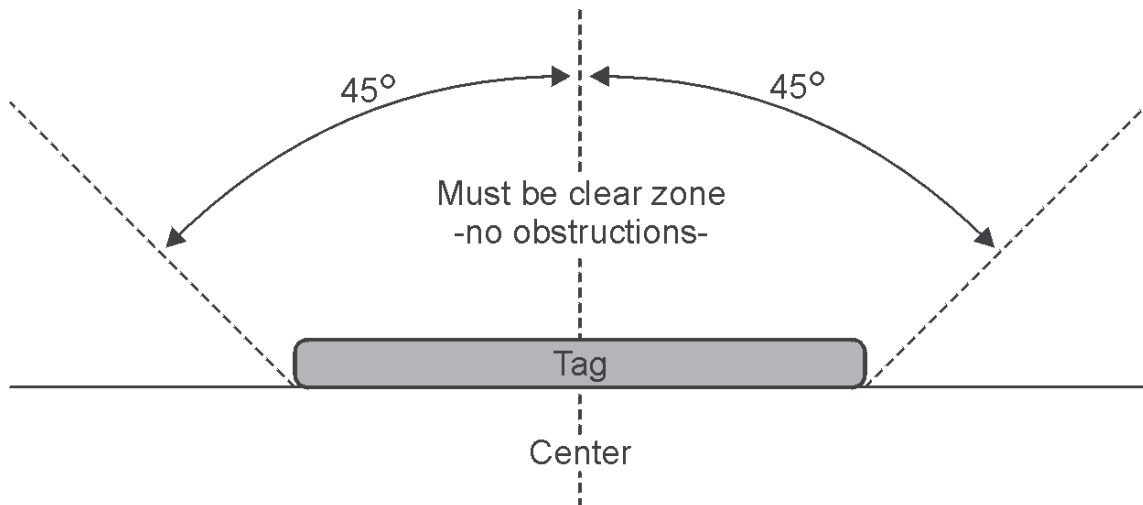

Figure 20 Obstruction Free Area
1. The area within 45 degrees of the center of the tag should be free of obstructions (Figure 20).